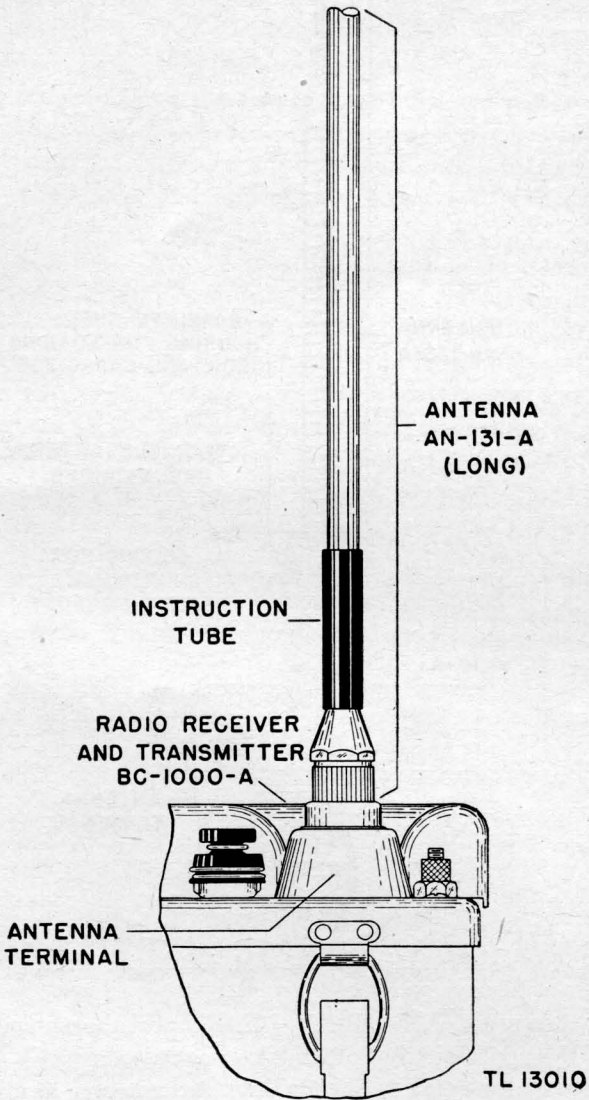

Figure 16. Antenna AN-131-A, installation detail.
(2) Screw the assembled antenna into the antenna terminal just far enough to permit a good connection. This requires approximately five turns. (See fig. 16.) *Do not force.*